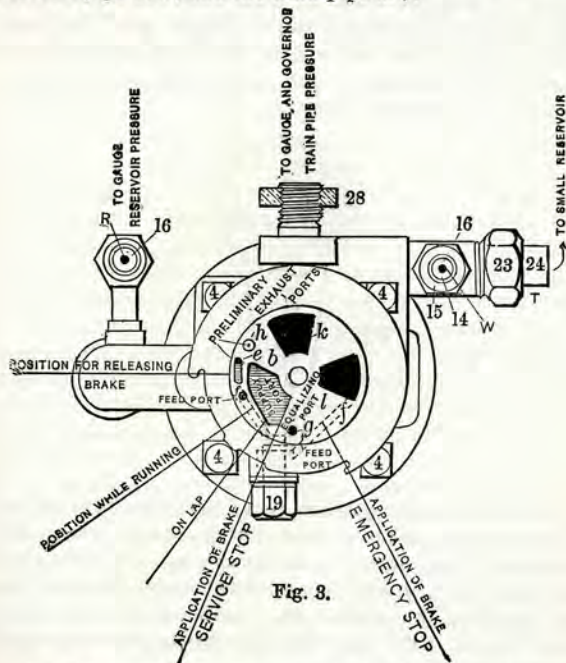
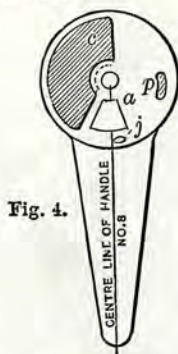

Fig. 3.
Fig. 4.
16. By preparing a diagram similar to Figure 4, representing the rotary valve 13 and handle 8, of tracing cloth or other transparent material, cutting the ports *a* and *j* out of the diagram on their boundary lines to show *through* openings, and then reversing same and placing it upon the seat of the valve, Figure 3, where it may be rotated at will on a center, the explanation following will be clear.